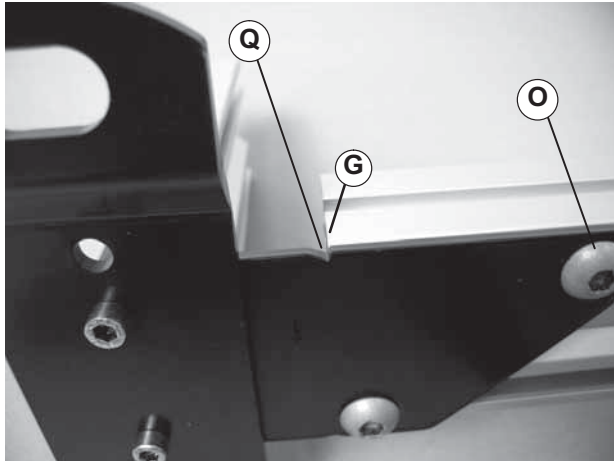

Figure 5
5. Align notch (Figure 5, item Q) on leg assembly with edge of crossmember (G).
6. Tighten button screws (Figure 5, item O) to 150 in-lb (17 N-m).